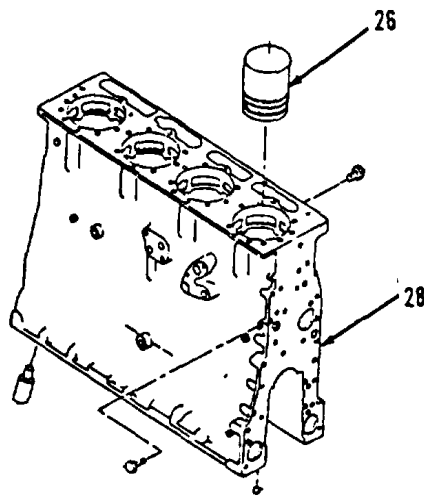

Figure 13-3.
4. Apply thin ring of retaining compound around top diameter and outside face of insert (27).
5. Using installer assembly, tap shaft with suitable hammer. Insure insert (27) is bottomed against counterbore.
6. Install four cylinder liners (26) in block (28, Figure 13-3).